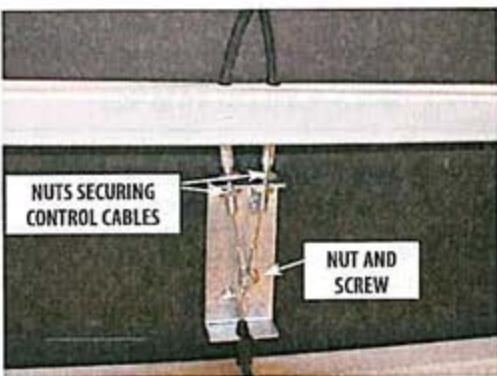

FIGURE 5.13
2. Using a flathead screwdriver and a 5/16" combination wrench, remove the screw and the nut, securing the three eyelets connecting the Controls and the single Cable going to the Spring. **Refer to Figure 5.13.**